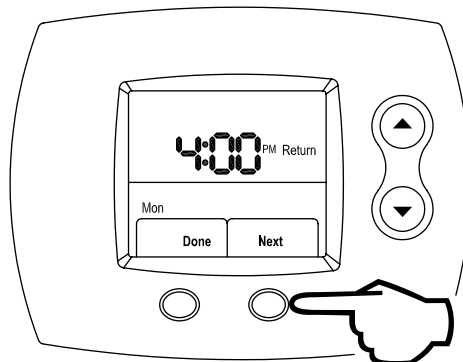

Figure 65
Step 18: Press the **RIGHT** (Next) button to lock in AM / PM. This is shown in Figure 65.